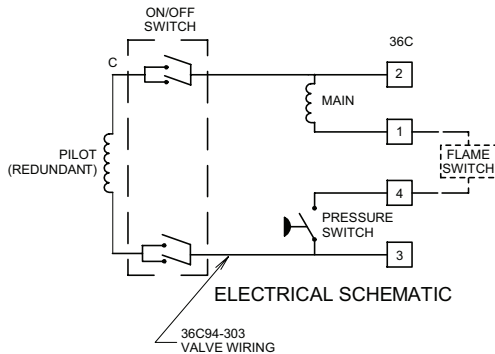

Figure 3. Valve Wiring
12. See **SYSTEM WIRING** when making electrical connections. Connect wires per Fig. 3 Diagram and Fig. 4 Chart.
REFER TO AND FOLLOW THE APPLIANCE MANUFACTURER'S WIRING DIAGRAM. REFER TO FIG. 3 FOR TERMINAL IDENTIFICATION.